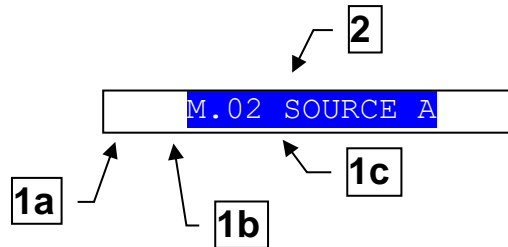

Fig. 4 – Top status bar
5.4.5 Top status bar (ref. to fig. 4)